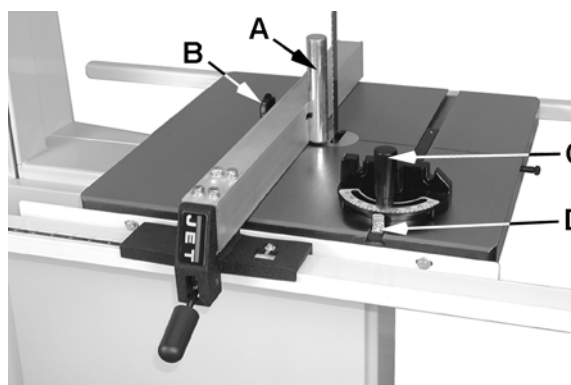

Figure 13
For resawing attach the *post* (A, Fig. 13) to the fence with the *lock knob* (B, Fig. 13). There is a slotted hole in the fence that will accommodate the resaw kit. Position the post so that it is centered with the front edge of the blade. The resaw guide will give you a taller, single point contact surface during resawing.
3. If the miter gauge is not square to the blade loosen the lock knob (C, Fig. 13) and adjust to the proper setting. Tighten the lock knob.
4. If the pointer is not at 90 degrees, loosen the screw (D, Fig. 13) holding the pointer and move the pointer to 90 degrees.